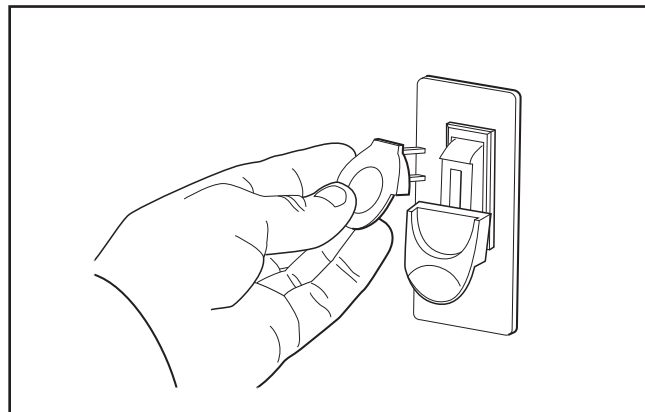

Figure 24. Locking-out.
3. To lock-out the switch, remove the yellow key from the switch housing, as shown in **Figure 24**. Place the key in a safe place.